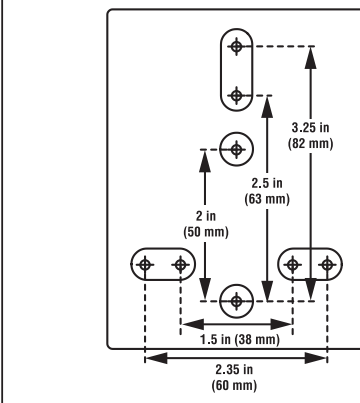

Fig. 2
2. Secure the winch to the mounting structure with a 3/8 inch diameter Grade 8 bolts, washers, and lock nuts. The winch base hole pattern can be found in **Figure 2**.